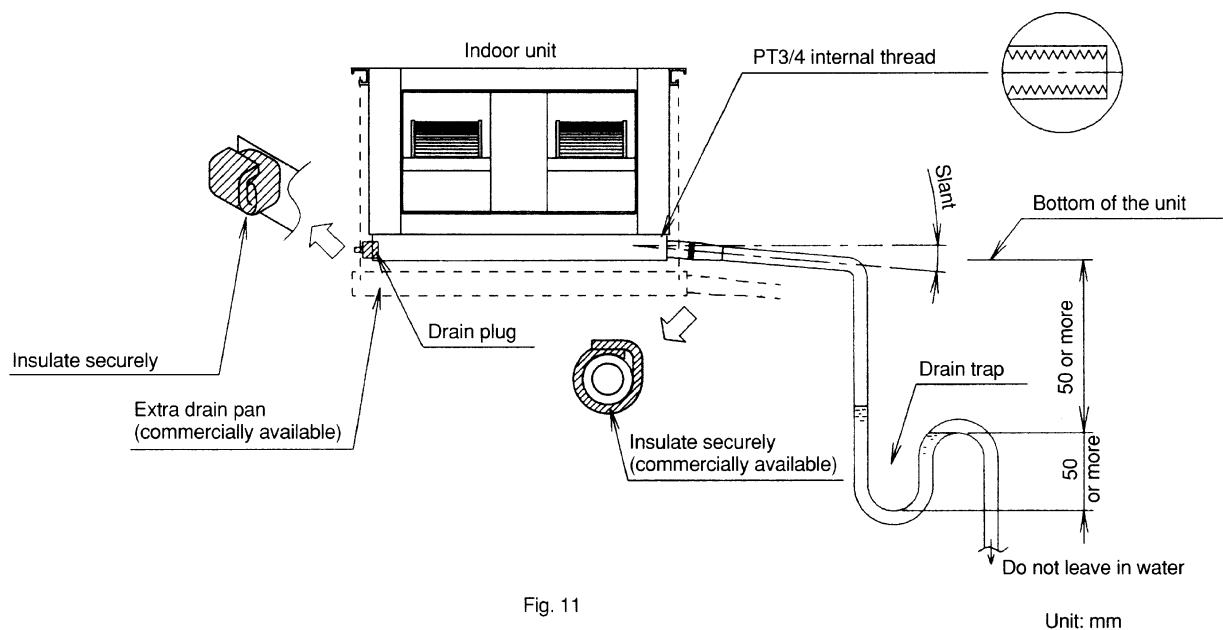

Fig. 11
- Assemble the unit as shown in Fig.11.
- For best results, try to keep the piping as short as possible. Slant the piping at an angle to improve flow (the drain pipe provided with the indoor unit has a PT 3/4 internal thread). See Fig.11.
- After closing the drain pipe on the opposite side of the unit, completely wrap the drain pipes with insulation (see Fig.11).